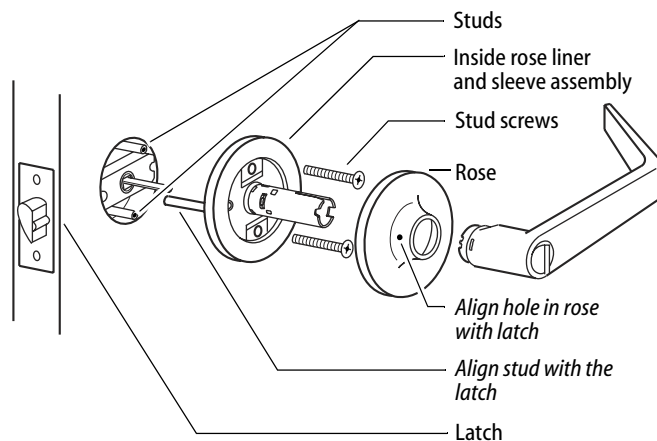

Figure 8 Installing the inside rose and sleeve assembly with screws
- 1 Mount the inside rose liner and sleeve assembly by screwing the two screws into the outside studs as shown in Figure 8.